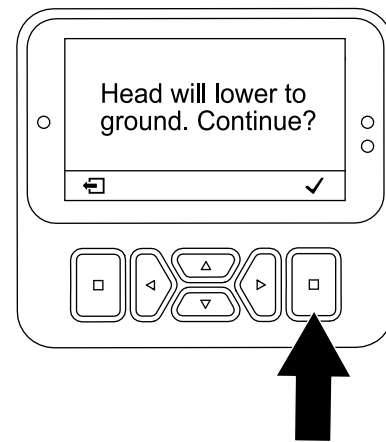

Figure 107
7. On the Head Will Lower screen (Figure 107), press the select button.